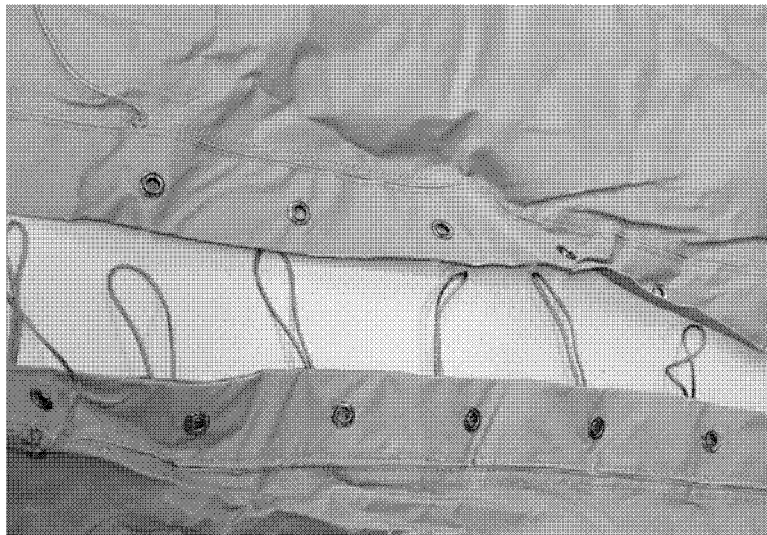

Fig 2 Lacing canvas sections (1)
9.2 Lace canvas sections together loosely and tie off at eaves as shown in Fig 2 to Fig 9.